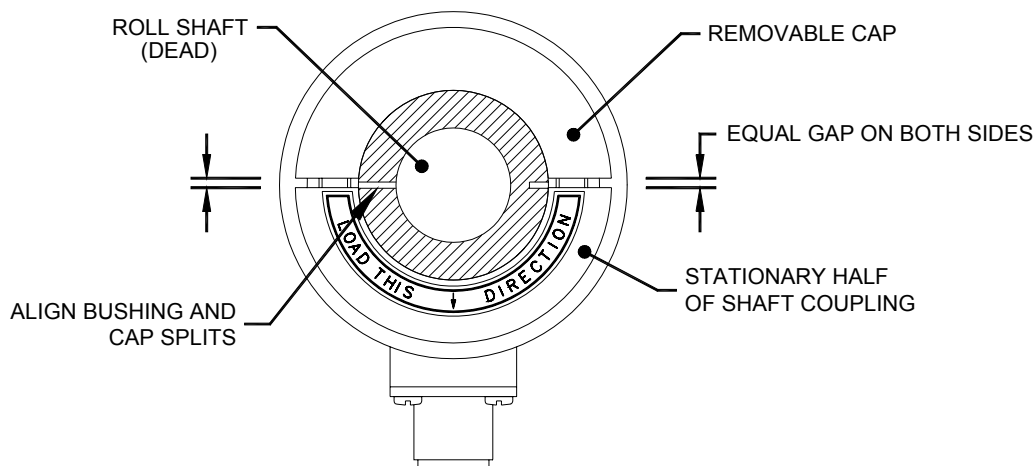

Figure 6 - Correct Shaft Coupling Installation
3. If you are using bushings, be sure that they are split on their circumference so that they readily yield to hold the roll shaft. Refer to Figure 6.
4. Remove the four (4) socket head cap screws and then remove the shaft coupling cap.
6. Install coupling bushings on the roll shaft (if being used) and place the roll onto the stationary portion of the shaft coupling. To be sure that the clamping force is properly transmitted to the roll shaft align the bushings so that the split coincides with the split of the shaft coupling. Refer to Figure 6.
3. Tighten the shaft coupling cap. Be sure that the size of the gap on each side of the roll shaft is equal in width. Refer to Figure 6.